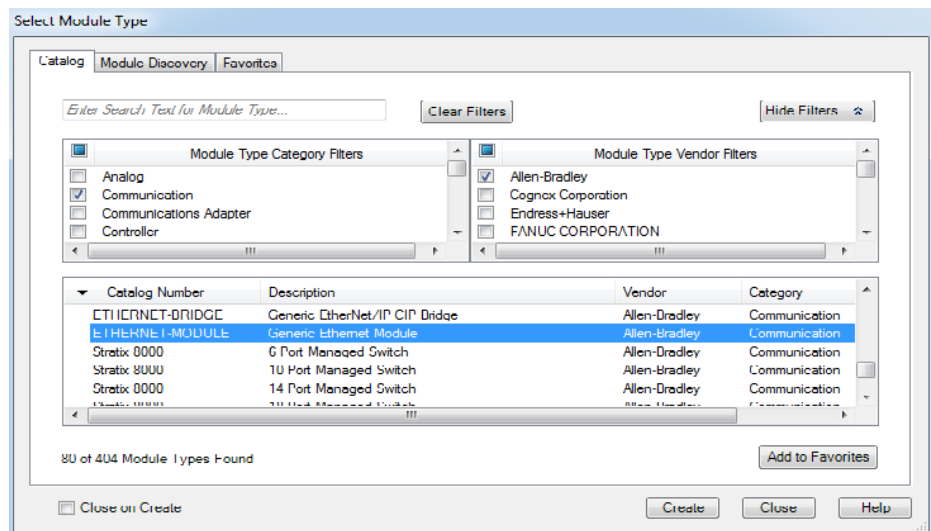

Figure 56: '**Generic Ethernet Module**' selected in list
2. In the **Select Module Type** window, double-click the '**Generic Ethernet Module**' in the list of catalogs (see figure 56).